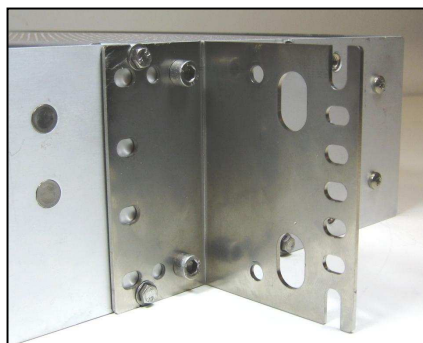

Fig. 2 – Mounting Bracket Position for ANSI Installation
- Install mounting bracket on each side of the unit as shown in fig. 2.